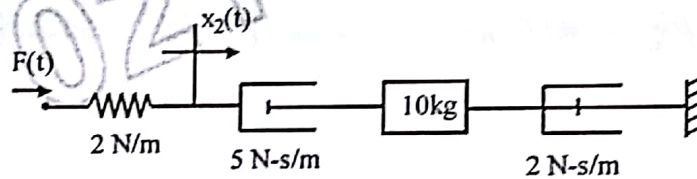

Fig 1(b)
- b) Write equation of motion of translational mechanical system shown in fig. 1(b) and determine Transfer function. 9